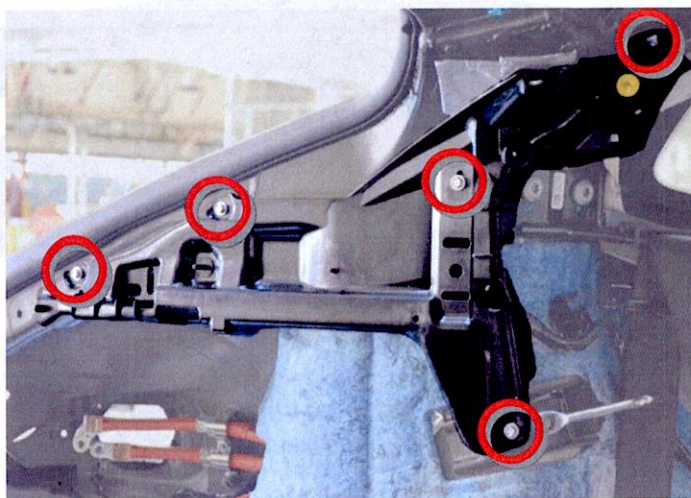

Figure 2
5. Remove the LH C-Pillar bracket by releasing the 5 bolts (Figure 2).